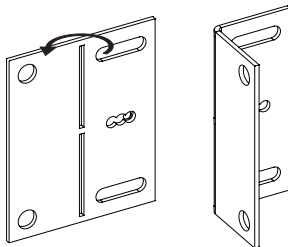

Figure 36
8. Bend the nailing flanges 90 degree as shown in **Figure 36.**